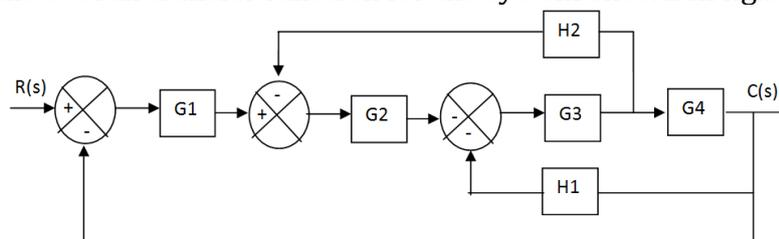

Fig.3
- (b) Determine the overall transfer function for the system shown in fig.3. 7M